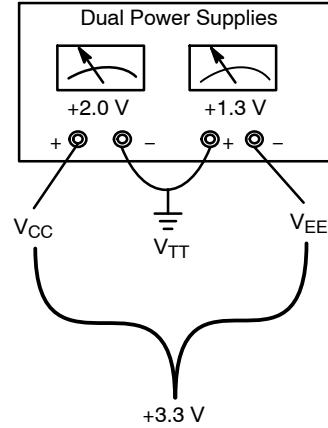

Figure 2. "Split" or Dual Power Supply Connections
1. Connect a “split” power supply to the evaluation board. (see Figure 2)